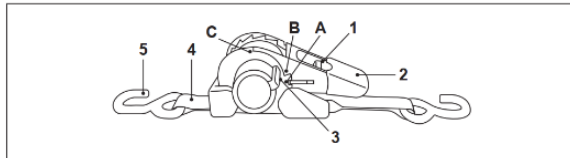

Fig. 1
—Press button (1) and slide lever (2) to position (A) (Fig. 1)
—Pull the tension strap (4) to the desired length and attach the hooks (5) (Fig. 1)
—Press the button (1) and slide the lever (2) into position (A) (Fig. 1).